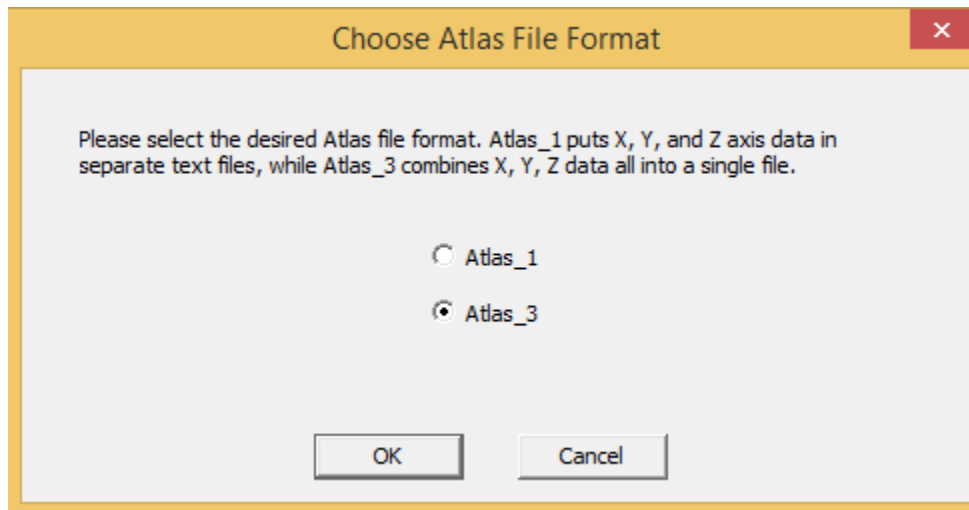

Figure 6.33: ‘Choose Atlas File Format’ window.
5. The window in **Figure 6.33** opens.